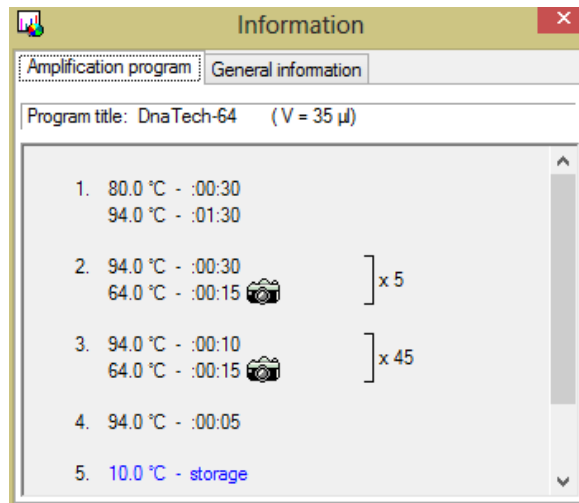

Fig.67 Information about the RUN
- RUN information: amplification program, RUN file name, serial number of the device, etc (Fig.67).